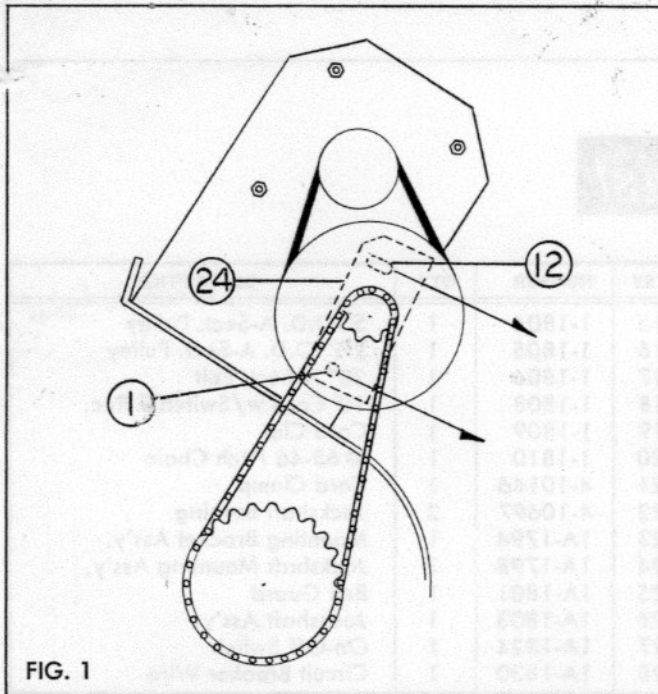
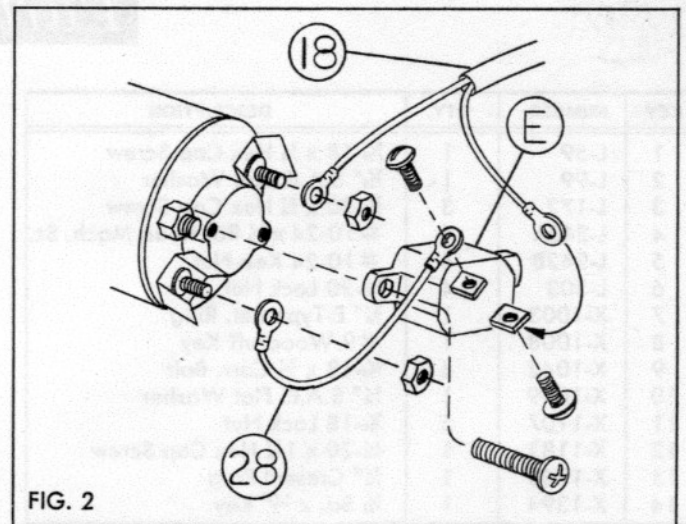

FIG. 1
FIG. 2
1. Fasten Motor Mounting Bracket (23) to Chassis (A) with four Carriage Bolts (9) and Lock Nuts (11).
2. Mount Motor (B) to Mounting Bracket (23) using three 3/4" Bolts (3) and Lock Nuts (6) in two Top Holes and Back Bottom Hole.
3. Install Jackshaft Housing Assembly (includes sprocket, shaft and pulley) to Motor Mounting Bracket and secure at top (not tight) with 1 1/4" Bolt (12), Flat Washer (10) and Lock Nut (6). Fasten at bottom with 3/4" Bolt (1), Flat Washer (2) and Lock Nut (11).
4. Place Square Key (14) in Motor Shaft, Slip 2 1/2" Pulley (16) (Hub toward motor) on Motor Shaft and tighten Set Screw in Pulley Hub.
5. Install 20" A-Section V-Belt (17).
6. Install Drive Chain (20) on small Sprocket of Jackshaft and Drive Sprocket (C) on Brush Shaft of Sweeper.
7. With Belt and Chain installed, rotate and slide Jackshaft Bracket (24) in slots to obtain correct Belt and Chain tension. Then tighten Bolts (12) and (1). See Fig. 1.
9. Assemble Cord Clip (19) on Cord (18) and squeeze Clip together with Pliers.
10. Remove Cover Cap from Motor. Install one #211A3530P1 circuit breaker (E) on top of the motor. Connect one of the cord (18) ends to a circuit breaker terminal. Then connect the small jumper wire (28) from the other circuit breaker terminal to one of the motor terminals. Connect the other cord end directly to the remaining motor post. See Fig. 2. Mount Switch (27) to Adjustment Bracket (D). Connect Split Wires to ON-OFF Switch.
11. Snap Cord Clamp (21) to Adjustment Tube of Sweeper with Cord in notch of Clamp.
12. Mount Belt Guard (25) to Chassis using four Machine Screws (4) and Lock Nuts (5).
13. Attach Cord Clip (19) between Fender and Battery Box.